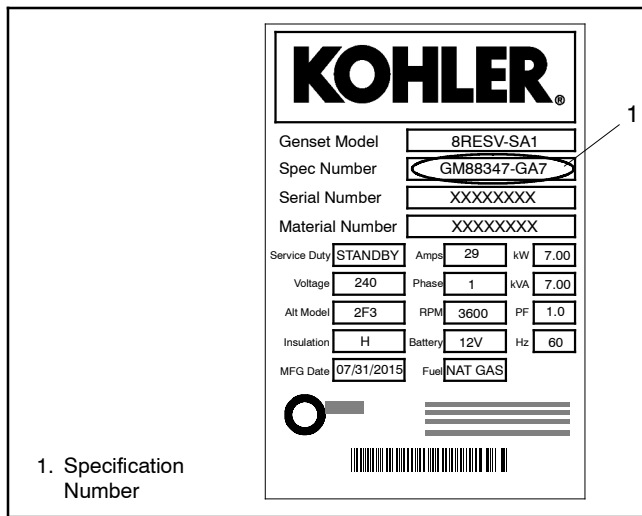

Figure 1-2 Name Plate
Note: The reduced minimum clearance from a structure contained in ADV-8774 and ADV-9739 only applies to generators that are compliant with clause (2) of section 4.1.4 of NFPA 37. To verify that the generator is compliant, check the **Specification Number** located on the generator name plate. See Figure 1-2. If the name plate displays one of the following specification numbers, then the generator is compliant with clause (2) of section 4.1.4 of NFPA 37 and the reduced clearance in ADV-8774 (Figure 3-5) and ADV-9739 (Figure 3-8) will apply.